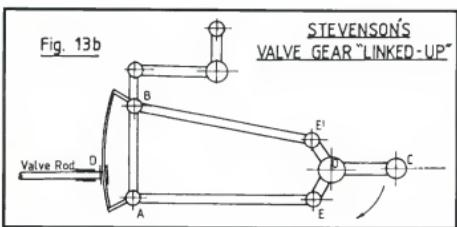
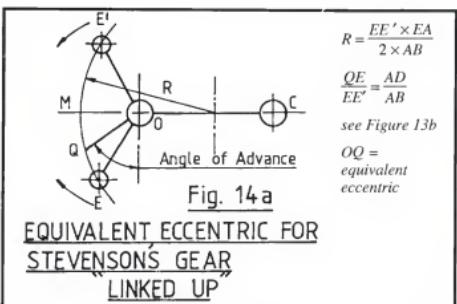
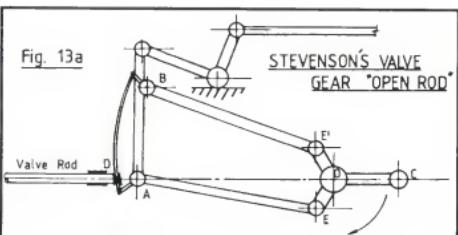

Fig. 13b
Fig. 14a
Fig. 13a
Stevenson's link motion as used for D valves and with the normal "open rods" is shown schematically in Figure 13a for clockwise rotation in full gear. The valve motion and event timings in this position can be considered as that provided by eccentric OE, any contribution from OE' being negligible. Thus for full gear Bilgram's diagram is based on the travel and angle of advance of OE. In Figure 13b, the gear is linked-up so that position D is midway between full gear and mid gear i.e. AD = $1/4$ AB. In this position OE' contributes significantly to the valve motion which can be attributed to an equivalent eccentric (OE'). Figure 14a shows a graphical method of determining this equivalent eccentric, proof of this construction is again given in Reference 1. Using this equivalent eccentric Bilgram's diagram can be constructed for any position of the slider block in the link.
The inverse requirement to find the link position that provides a specified valve event timing (cut-off example) is simplified if a locus line for the equivalent eccentric centre (Q) can be drawn on a basic Bilgram's diagram, as is shown in Figure 14b. Here the eccentricities OE and OE' are shown as for a full gear Bilgram's diagram and an arc EME' with radius R as determined for Figure 14a is drawn through E and E' . This arc is the locus of the centres of the equivalent eccentricities for a linked-up gear. By drawing the lap circle with its centre on this arc and tangential to the crank angle for the required cut-off, much as in Figure 11b where the lap circle centre was located on the constant lead line LM , the equivalent eccentric OQ providing the specified cut-off is found. Using the ratios $\frac{EQ}{EE'} = \frac{AD}{AB}$ the link up position of D on AB is located.
see Figure 13b
3. In Stevenson's link motion as illustrated Figure 13a, eccentric OE could have its eccentric rod connected to point B of the link, with OE' to point A. These rod connections are termed "Crossed rods" and under these conditions the lead reduces as the gear is linked-up. To find the equivalent eccentric in the linked-up condition, the arc EME' Radius R of Figure 14a is drawn with its centre on the opposite side of EE' i.e. concave towards O. If such an arc is used for the locus of the centre of the equivalent eccentric in Figure 14b, it is readily seen that in addition to the lead decreasing as the gear is linked-up, the maximum port opening rapidly diminishes. A condition to be avoided at all costs, hence constructors of Stevenson's link motion should ensure that the rods are "open" when the crank is at the outer dead centre. In most assemblies the rods can be connected either way!.